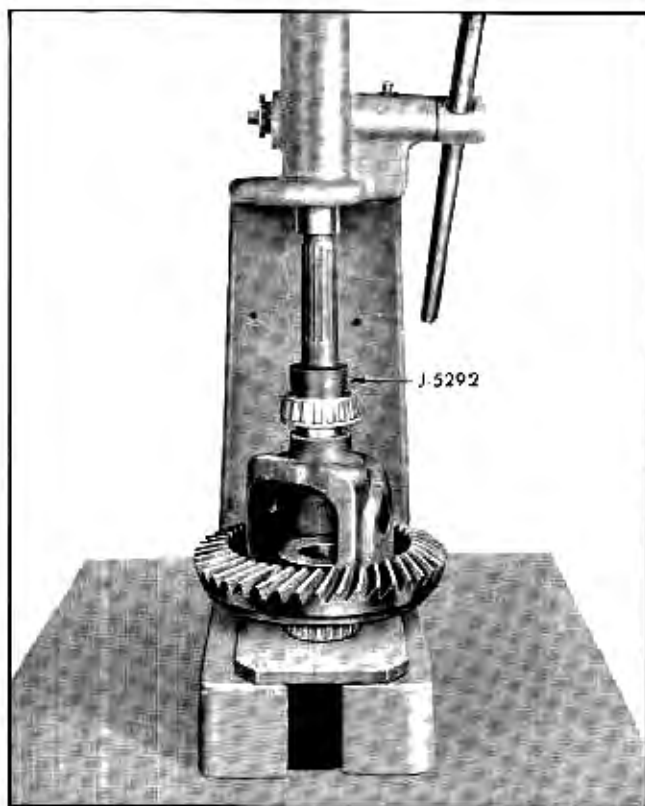

Fig. 4-40 Installing Side Bearings With Installer J-5292
b. Install bearing by pressing or driving inner race onto case using Installer J-5292 (Fig. 4-40). Press only on inner race of bearing or bearing will be damaged.
15. Visually inspect side bearings for wear and replace if necessary. Install inner race and roller assemblies on hubs using Installer J-5292 (Fig. 4-40). After bearing has been installed on one side, it should be supported by the inner race by some suitable means such as an outer race from a front wheel bearing, when bearing on other side is being installed. **NOTE:** After bearings have been installed, inspect fit of inner races on case hubs by prying against shoulders at puller recesses. Bearing inner races must be tight on case hubs; if loose, replace with new bearing or, if necessary, new case.